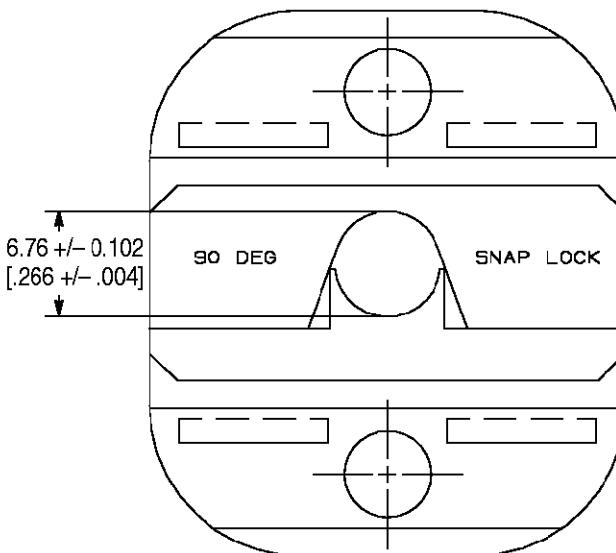

Figure 3
The die assembly will perform correctly as long as: (1) the product specified is correct for the application, (2) the specific die assembly is used, (3) the die assembly has been measured to ensure that the openings are correct, and (4) the tool has been adjusted correctly. Figure 3 provides information on die opening sizes.